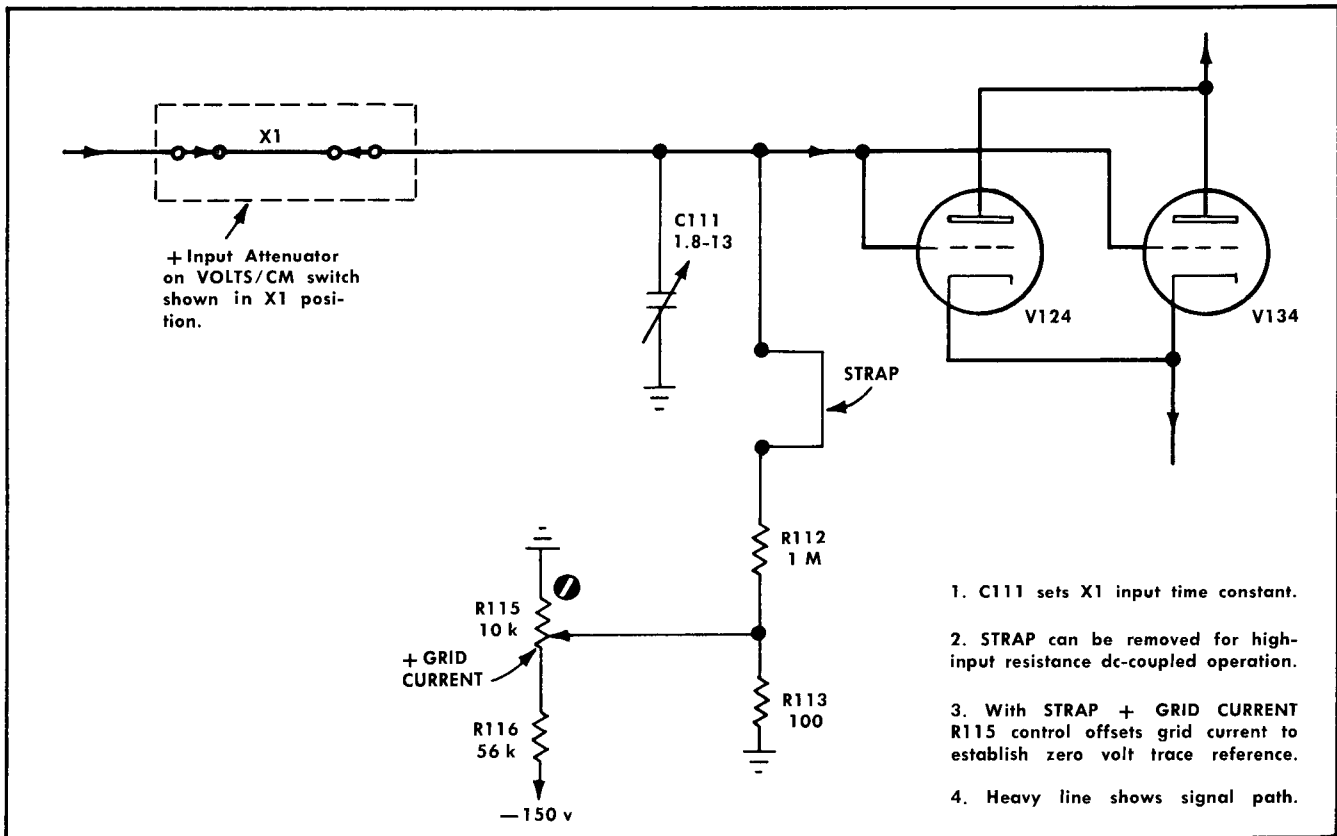

Fig. 3-2. Simplified grid circuit diagram of the +input side in the Input Amplifier stage.
1. The input time constant is established at $47 \mu\text{s}$ ($1 \text{ M}\Omega \times 47 \text{ pF}$) and equalized at all settings of the VOLTS/CM switch for both input connectors. In the +input 1X attenuator position, this is accomplished by adjusting C111 (see Fig. 3-2). Adjustable capacitors C105B, C106B, and C107B (refer to Attenuators diagram) serve the same purpose for the other +input attenuator positions.
For special applications, the strap or wire link connected from the grids of V124-V134 (see Fig. 3-2) to R112 can be removed to provide a substantially higher input resistance